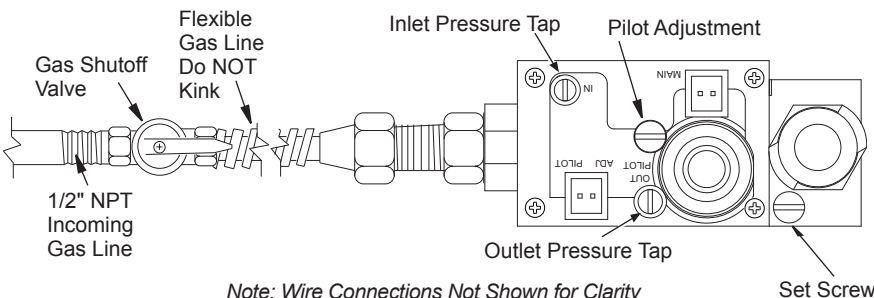

Figure 22 - Connecting Flexible Gas Line to Electronic Valve
2. Attach flexible gas line from gas supply to control valve (see Figure 22).